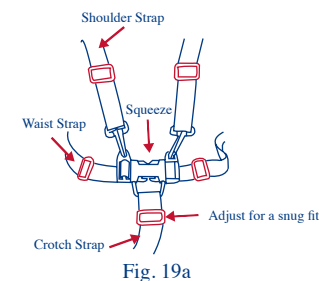

Fig. 19a
- Carefully place the child in the stroller seat and bring the safety harness around the child's waist and over the shoulders. Place the crotch strap between the child's legs. Insert the male end of each shoulder/waist belt into the buckle on the crotch strap. Tighten the harness to be snug around the child's waist and over the child's shoulders. Please see figure 19a.